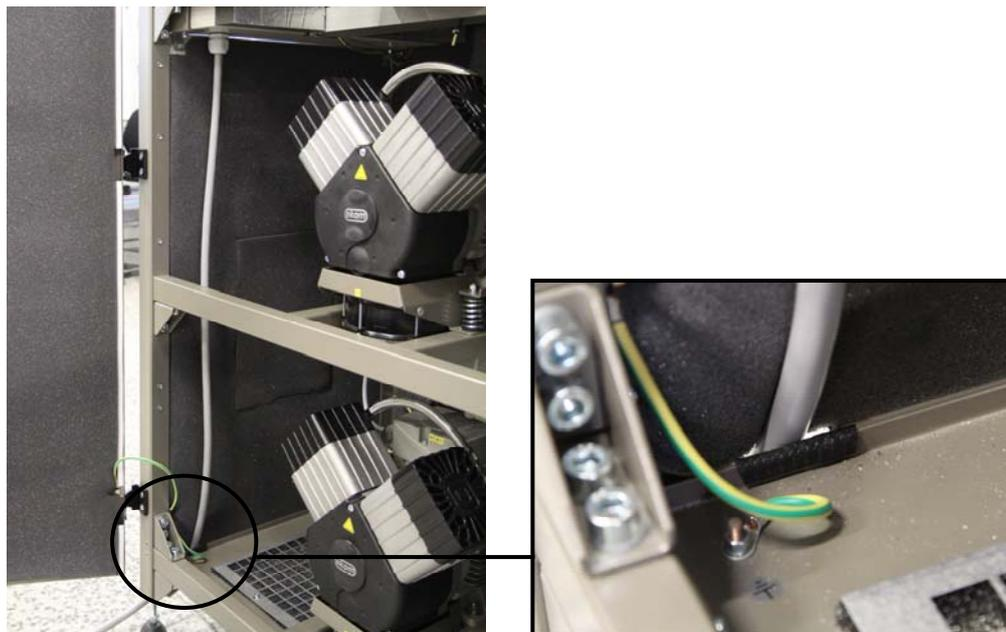

Fig.14
- Route the power cord out of the enclosure as illustrated. (Fig.14)